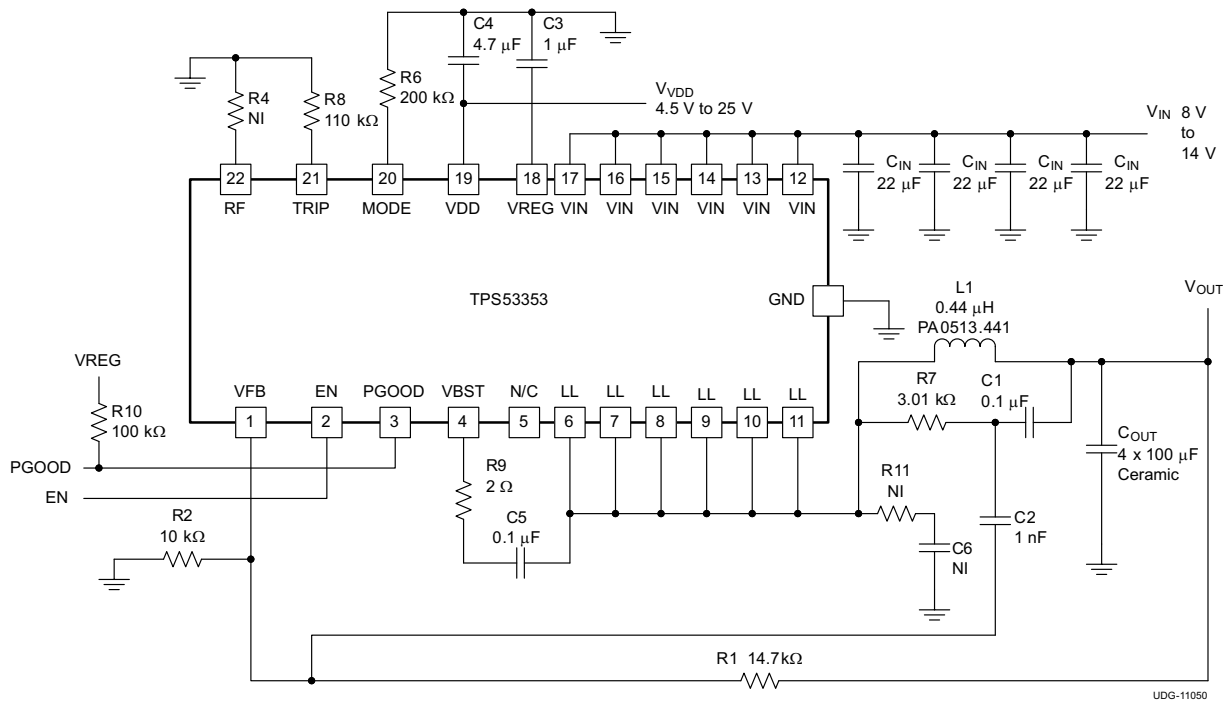

图 41. Typical Application Circuit Diagram With Ceramic Output Capacitors
When a ceramic output capacitor is used, the stability criteria in 公式 6 cannot be satisfied. The ripple injection approach as shown in 图 41 is implemented to increase the ripple on the VFB pin and make the system stable. In addition to the selections made using Steps 1 through Step 6 in the section, the ripple injection components must be selected. The C2 value can be fixed at 1 nF. The value of C1 can be selected from 10 nF to 200 nF.
- Connect the ripple injection  $V_{OUT}$  signal ( $V_{OUT}$  side of the C1 capacitor in 图 41) from the terminal of ceramic output capacitor. The AC coupling capacitor (C2 in 图 41) should be placed near the device, and R7 and C1 can be placed near the power stage.